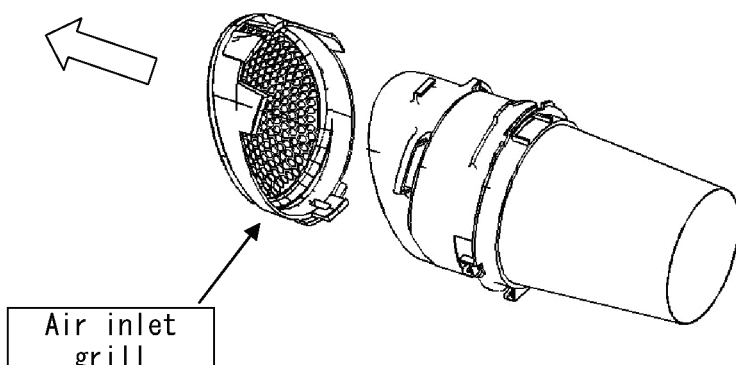

Figure 11
7. Take off an Air inlet grill from a Motor heater block as figure 11.